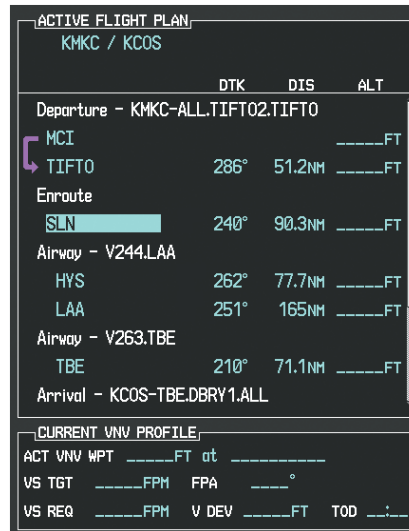

Figure 5-114 Begin Adding V4 to the Flight Plan
- b) The desired entry point for V4 (TOP) must be entered. Turn the large **FMS** Knob to highlight the desired flight plan insertion point (SLN) as shown in Figure 5-114. When the V4 entry point (TOP) is inserted, it is placed immediately above the highlighted waypoint (SLN).
e) With SLN still highlighted as in Figure 5-114, turn the small **FMS** Knob clockwise. The Waypoint Information Page is displayed and the **LD AIRWY** Softkey is now available.